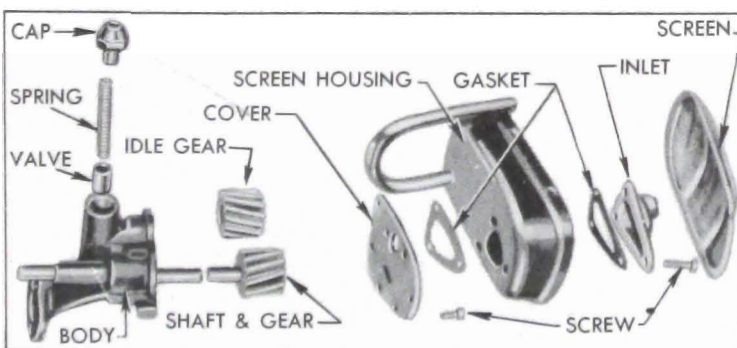

Figure 2-41—Oil Pump and Screen
1. After careful prying screen out of its housing, remove attaching screws and separate parts from the pump body in the following order: Pump inlet, gasket, screen housing, gasket, body cover, shaft and gear, idler gear. See figure 2-41.